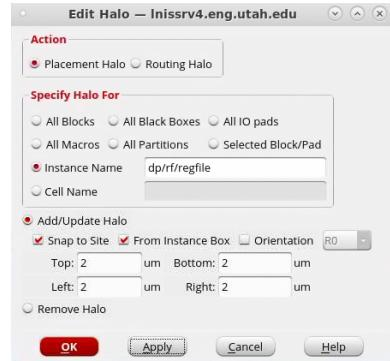

Figure 10: Adding a placement halo around the register block.
2. Define the settings as in Fig. 10. It will add a placement halo on each sides of $2 \mu m$. Note that the *Snap to Site* option was selected, so the Halo is rounded up to the nearest site, so the enarest standard cell row. In P&R, a SITE has a SIZE which is the base area that the SITE occupies. A macro or a standard cell sit on a SITE, and its size must match or be an integral multipliers of the base SITE. In this lab, you are using a SITE of size 0.560×3.920 , meaning that each standard cell has a height of $3.920 \mu m$ and a width of a multiple of $0.560 \mu m$.